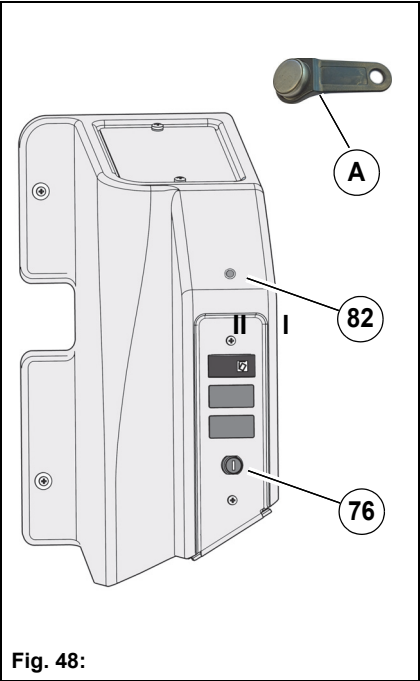

Fig. 48:
2. Press the I-Button Key **Fig. 48-A** against the I-Button Reader **Fig. 48-82** for one to two seconds.